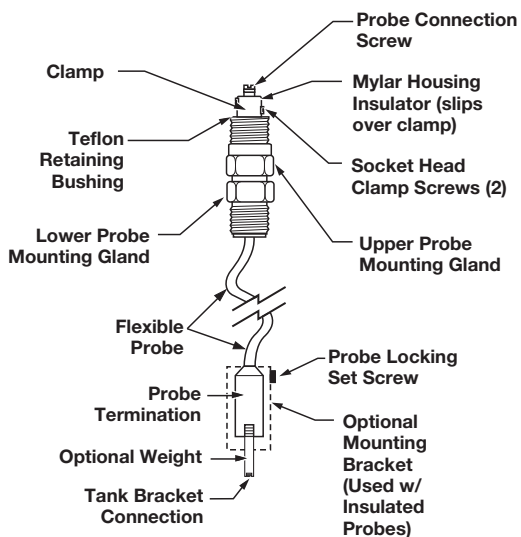

Figure 7
1. Unscrew probe from probe housing. Remove Mylar® housing insulator located over the clamp. Refer to Figure 7.
4. Secure lower end of probe (or optional weight) to tank bracket if one is used. Refer to Figure 7.
1. Unscrew probe from probe housing. Remove Mylar housing insulator located over the clamp. Refer to Figure 7 on page 5.
18. Locate the white wire which is fastened to the (+) Probe Terminal on the circuit board. Connect the free end of this wire to the Probe Connection Screw. Refer to Figure 7 on page 5.